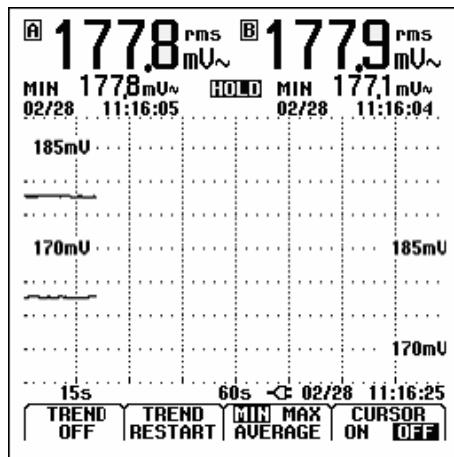

Figure 5-1. TrendPlot Reading
③ **F4** Start the TrendPlot. You will see a screen like figure 5-1.